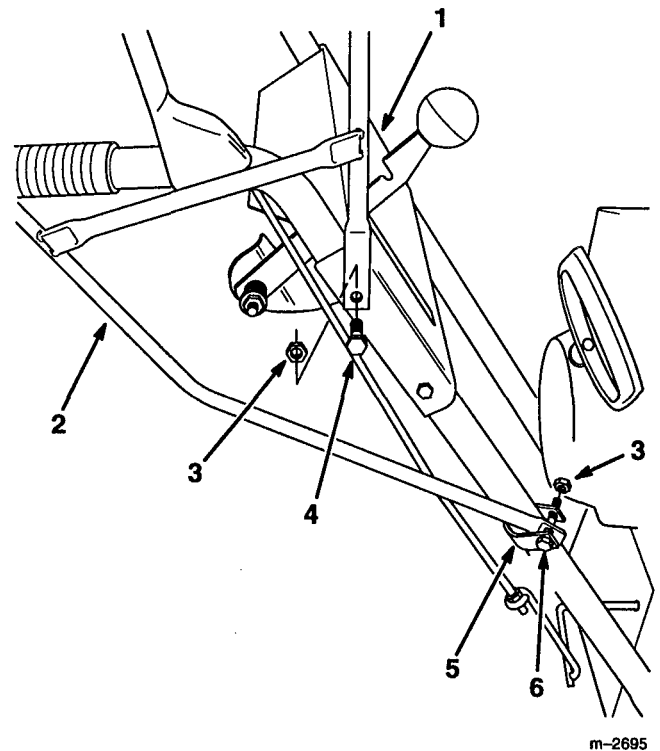

Figure 3
1. Fasten the top of the right bracket to the top right control panel mounting hole using the existing 1/4"-20 hex head bolt and locknut (Fig. 3).
2. Install the U-clamp onto the right handle (Fig. 3).
3. Fasten the bottom of the right bracket to the U-clamp with the 1/4"-20 x 1-3/4" (44 mm) bolt and locknut provided with the kit (Fig. 3).